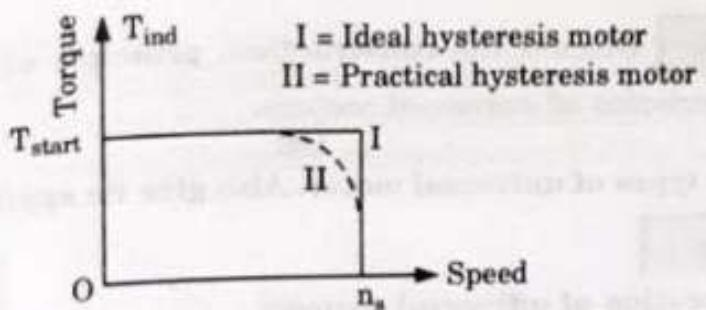

Fig. 5.3.2. Torque-speed characteristic of ideal hysteresis motor and practical hysteresis motor.
1. An ideal torque-speed curve for the hysteresis motor is shown by curve I in Fig. 5.3.2.